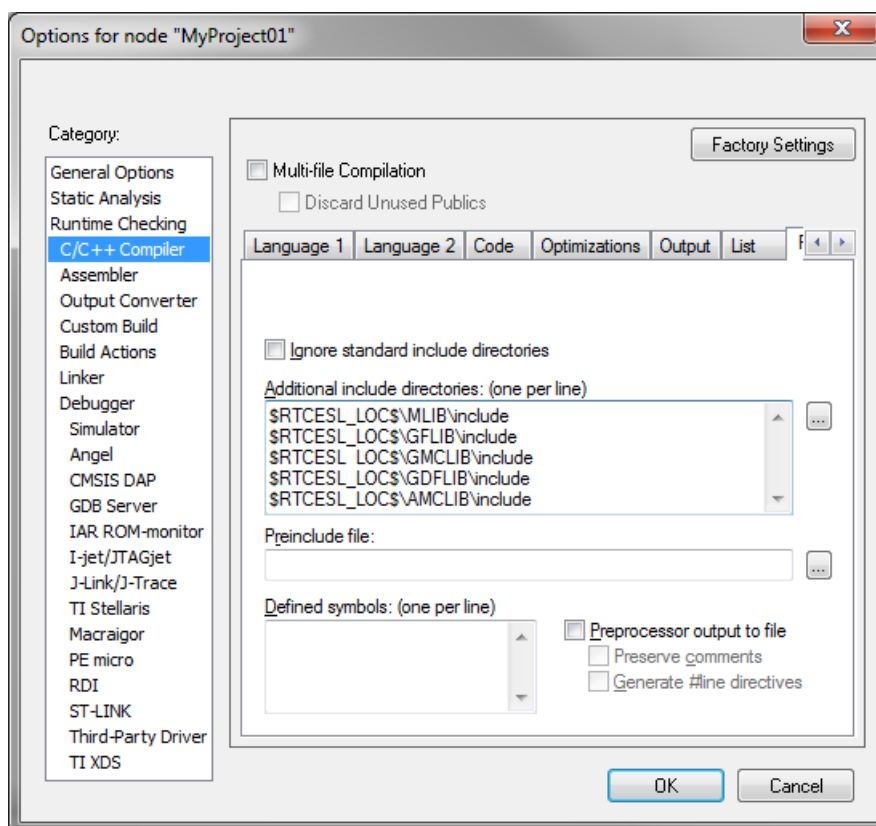

Figure 1-36. Library path addition
5. Click OK in the main dialog. See Figure 1-36.